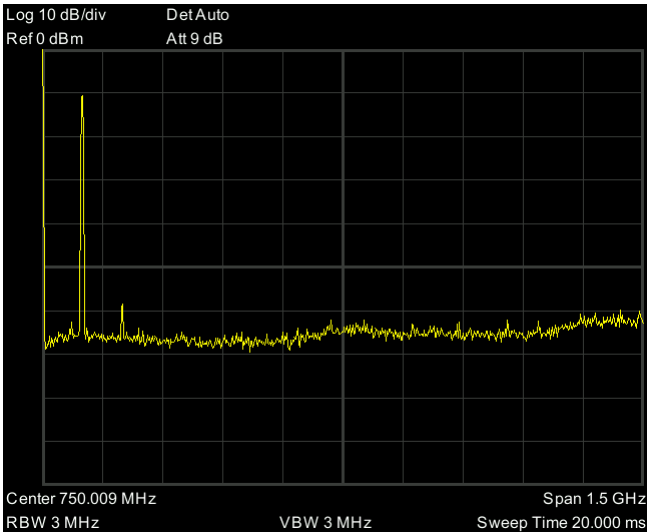

Figure 3-8 Full Span
- 1) Press **【Preset】** to restore the analyzer to its factory-defined state. The Spectrum analyzer will display the spectrum from 9kHz to the maximum span width. The signal generated will display as a vertical line at 100MHz. Refer to Figure 3-8.